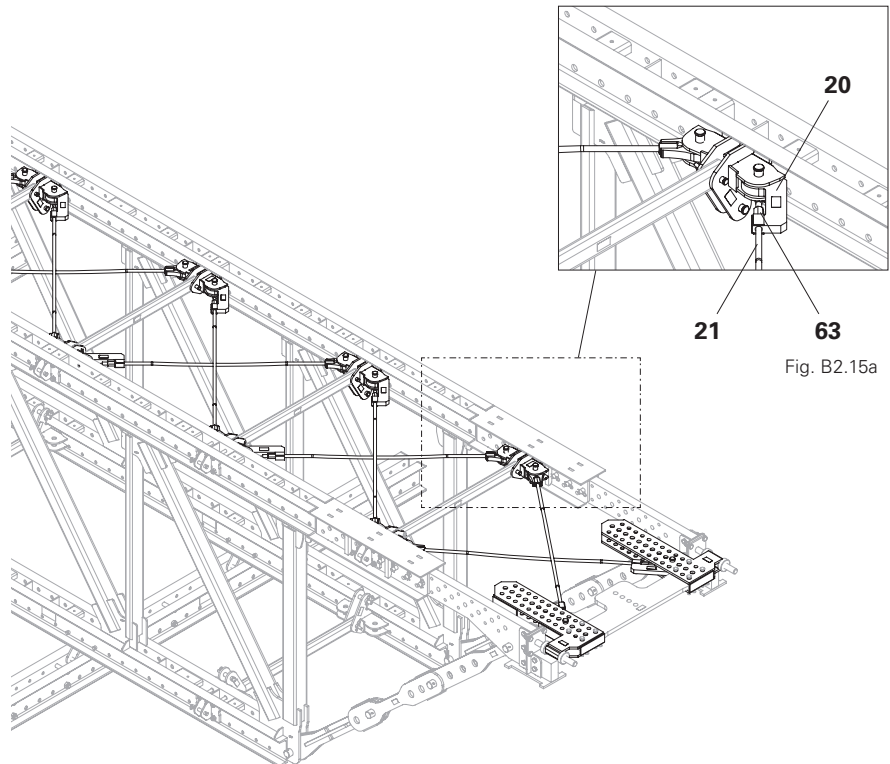

Fig. B2.15
5. Fix the eye nut in position with bolts (57) and secure with cotter pins (50).
6. Tighten all nuts (63) on the articulated spanner (20) with a wrench and adjust the bracing struts so they are free of play. (Fig. B2.15)